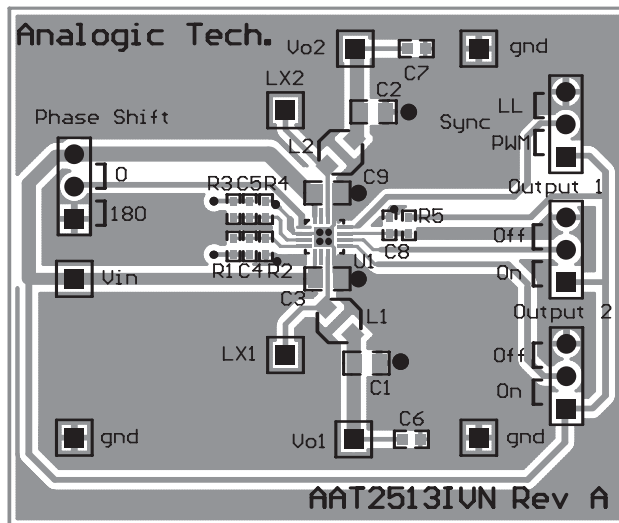

Figure 3: AAT2513 Evaluation Board
1. Due to the pin placement of V_{IN} for both converters, proper decoupling is not possible with just one input capacitor. The input capacitors C3 and C9 should connect as closely as possible to the respective VIN and GND as shown in Figure 3.